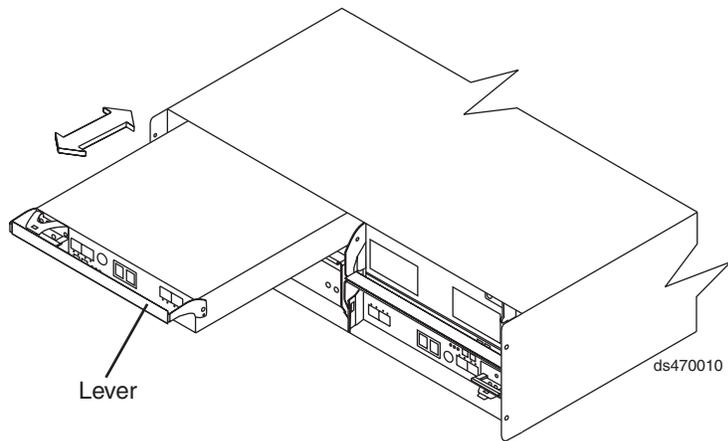

Figure 16. Removing and replacing a controller
2. Slowly pull the lever away from the chassis to remove the controller from the bay, as shown in Figure 16 on page 34.